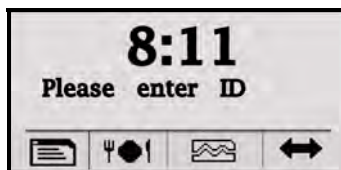

Figure 35: Enter Employee ID for Transfer
- Step 1.** From the normal main display (see **Figure 34**) press the **transfer**  function button to enter an employee ID for a labor transfer (see **Figure 35**).